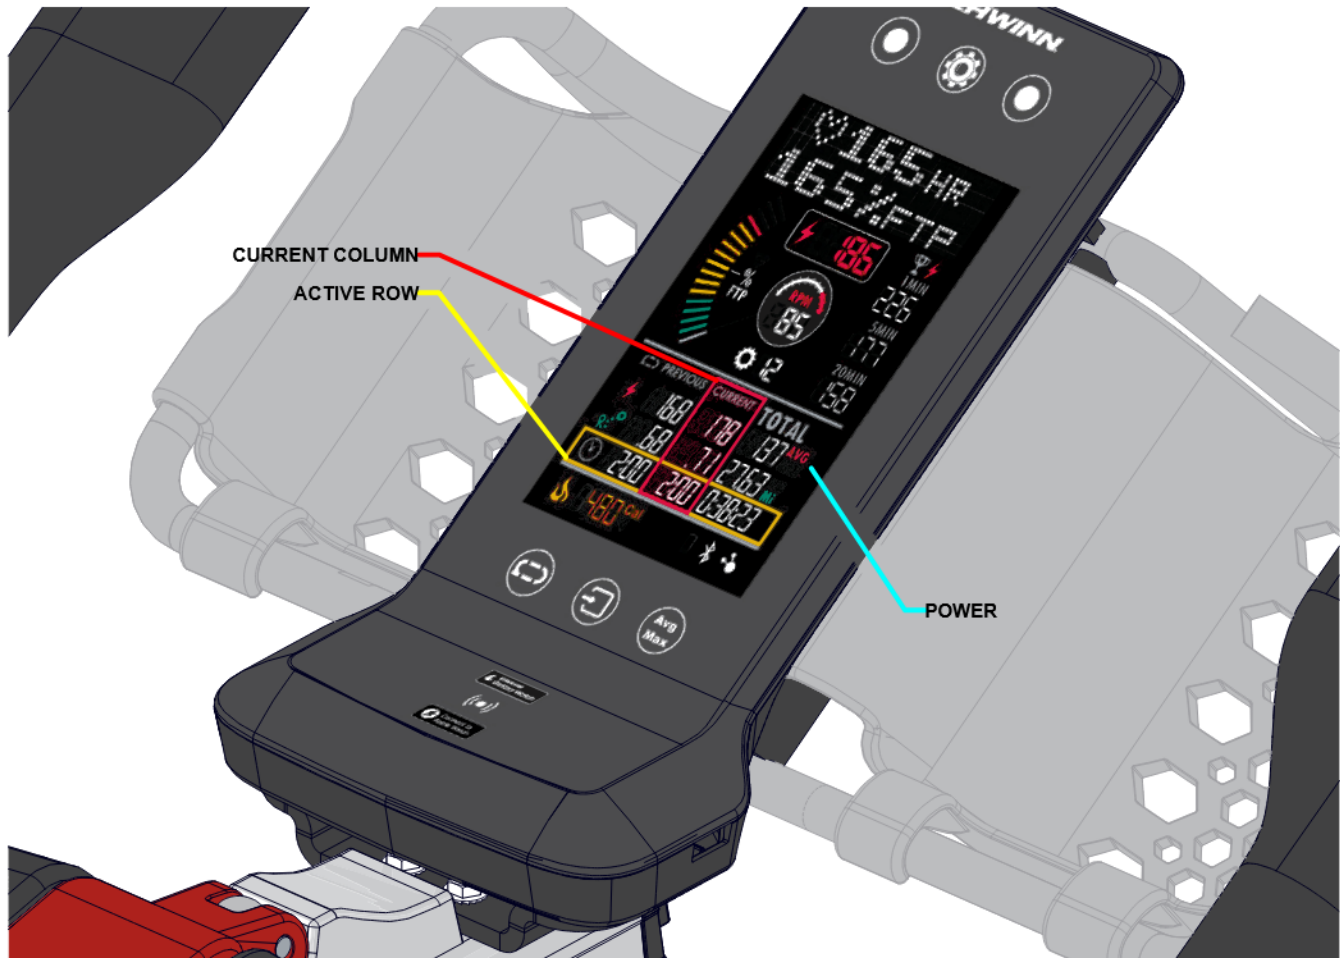

Fig. 38 Distance Challenge
2. Message center will display “**COPY FIT?**” see Fig. 38.